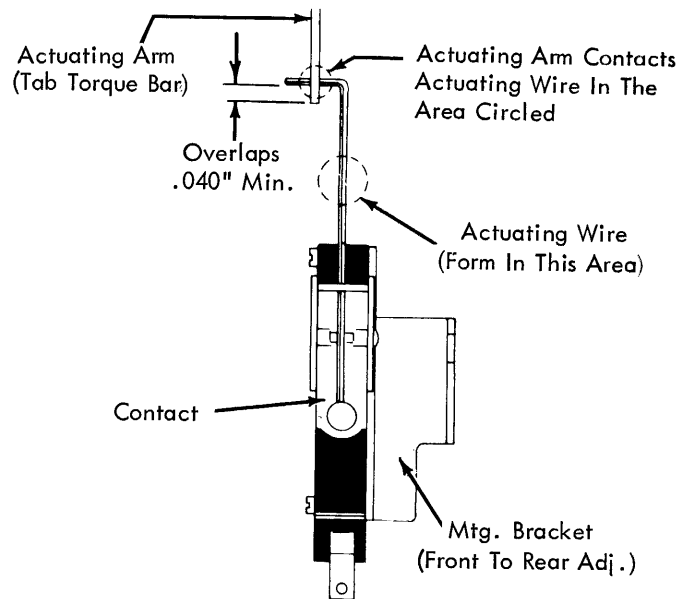

FIGURE 243. Interlock Contact
- Form (in circled area) the actuating wire (left or right) so that it contacts the actuating arm near the right angle bend (Fig. 243).
- With the tab interposer released and the backspace cam on its high point, position the mounting bracket (front to rear) so that the actuating arm overlaps (.040" minimum) the actuating wire (Fig. 243). This insures that the actuating wire does not get above the actuating arm.